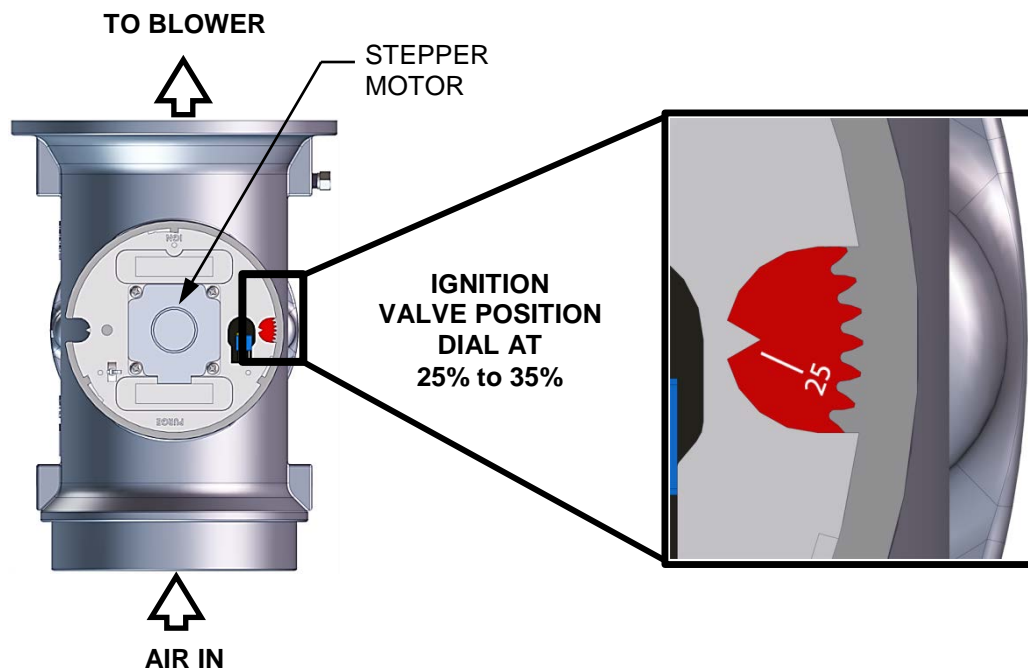

Figure 3-6: Air/Fuel Valve In Ignition Position
- (a) The Air/Fuel Valve rotates to the low-fire (Ignition Position) position and closes the ignition switch. The Dial on the Air/Fuel Valve (Figure 3-6) will read between **25** and **35** to indicate that the valve is in the low fire position.